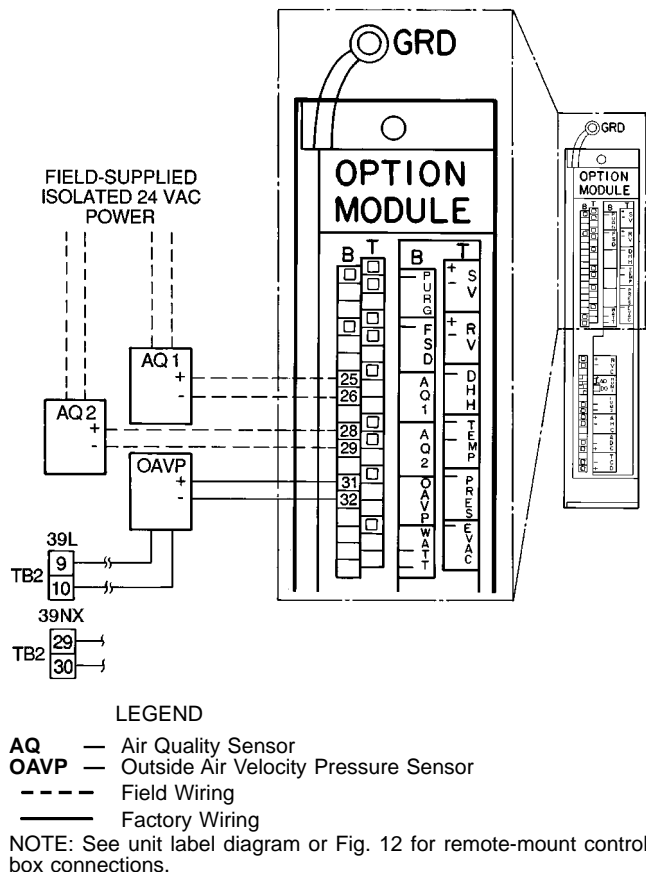

Fig. 62 — Air Quality and OAVP Sensor Wiring
AIR QUALITY SENSOR — Air quality (AQ) sensors are CO₂ sensors shipped inside the fan section for field installation. To wire the sensors after they are mounted in the conditioned air space and return air duct, see Fig. 62 and the instructions shipped with the sensors. For each sensor, use two 2-conductor 20 AWG twisted-pair cables (unshielded) to connect the separate 24 vac power source to the sensor and the sensor to the option module (PSIO slave) terminals. To connect each AQ sensor to the option module, identify the positive (+) and negative (–) terminals on the sensor; connect AQ1 to terminals 25 and 26 and connect AQ2 to terminals 28 and 29.
OUTSIDE AIR VELOCITY PRESSURE (OAVP) SENSOR — The OAVP sensor is factory installed and wired. As shown in Fig. 62, the sensor's power wiring is connected to TB2, 9 and 10 for 39L units or TB2, 29 and 30 for 39NX units; the signal leads are connected to terminals 31 and 32 in the option module.